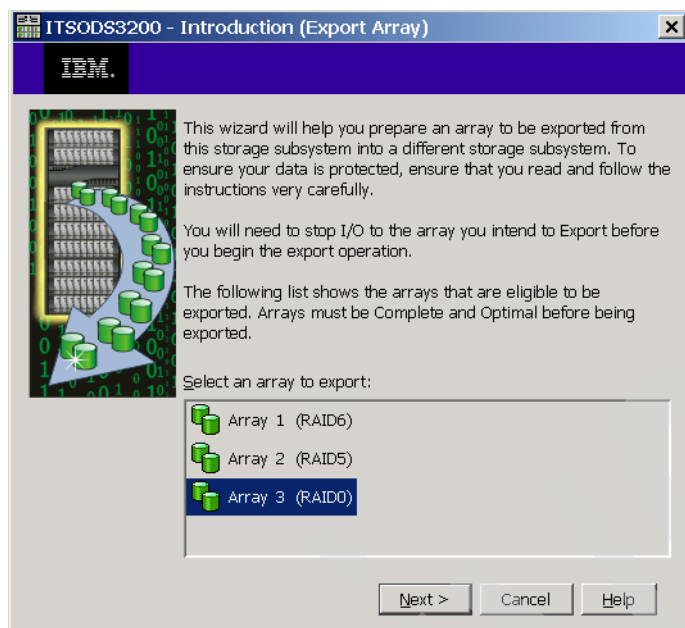

Figure 14-52 Export Array - Select array
4. Activate the **Export Array** task from Advanced Support menu (Figure 14-46 on page 335) and select the array that you want to export in the Introduction window (Figure 14-52).